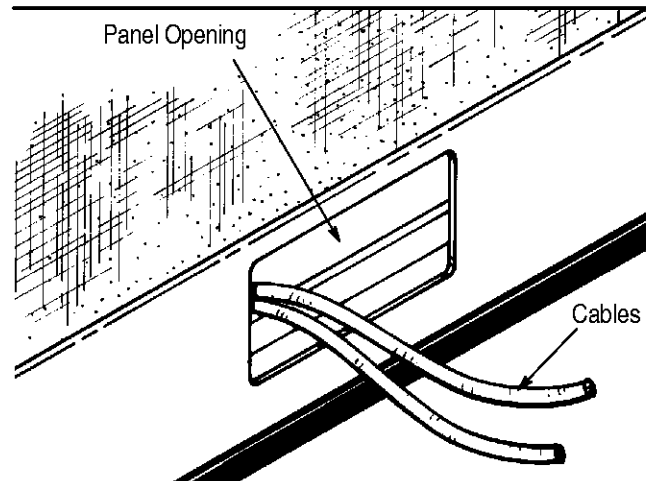

Figure 2
2. Pull cables through panel opening, as shown in Figure 2.